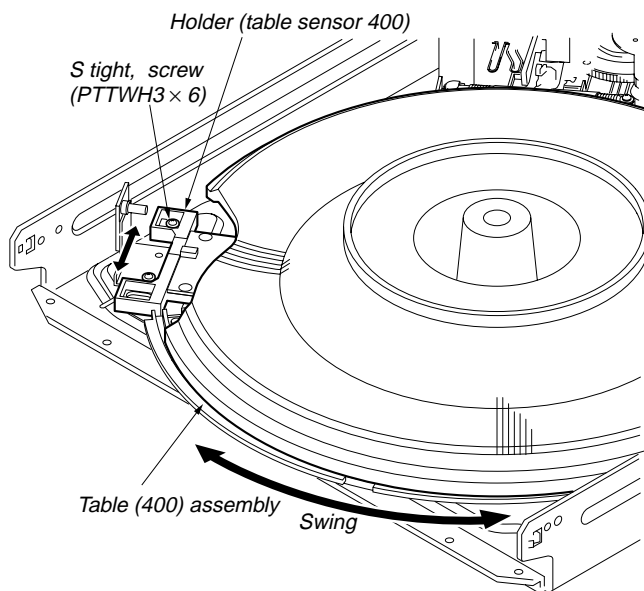

Fig. 3
2. Moving the table right and left with a hand after the screw is fixed, the table will move by the play of the table. If the LEDs light up alternately, the adjustment will be performed correctly. (Fig. 3)